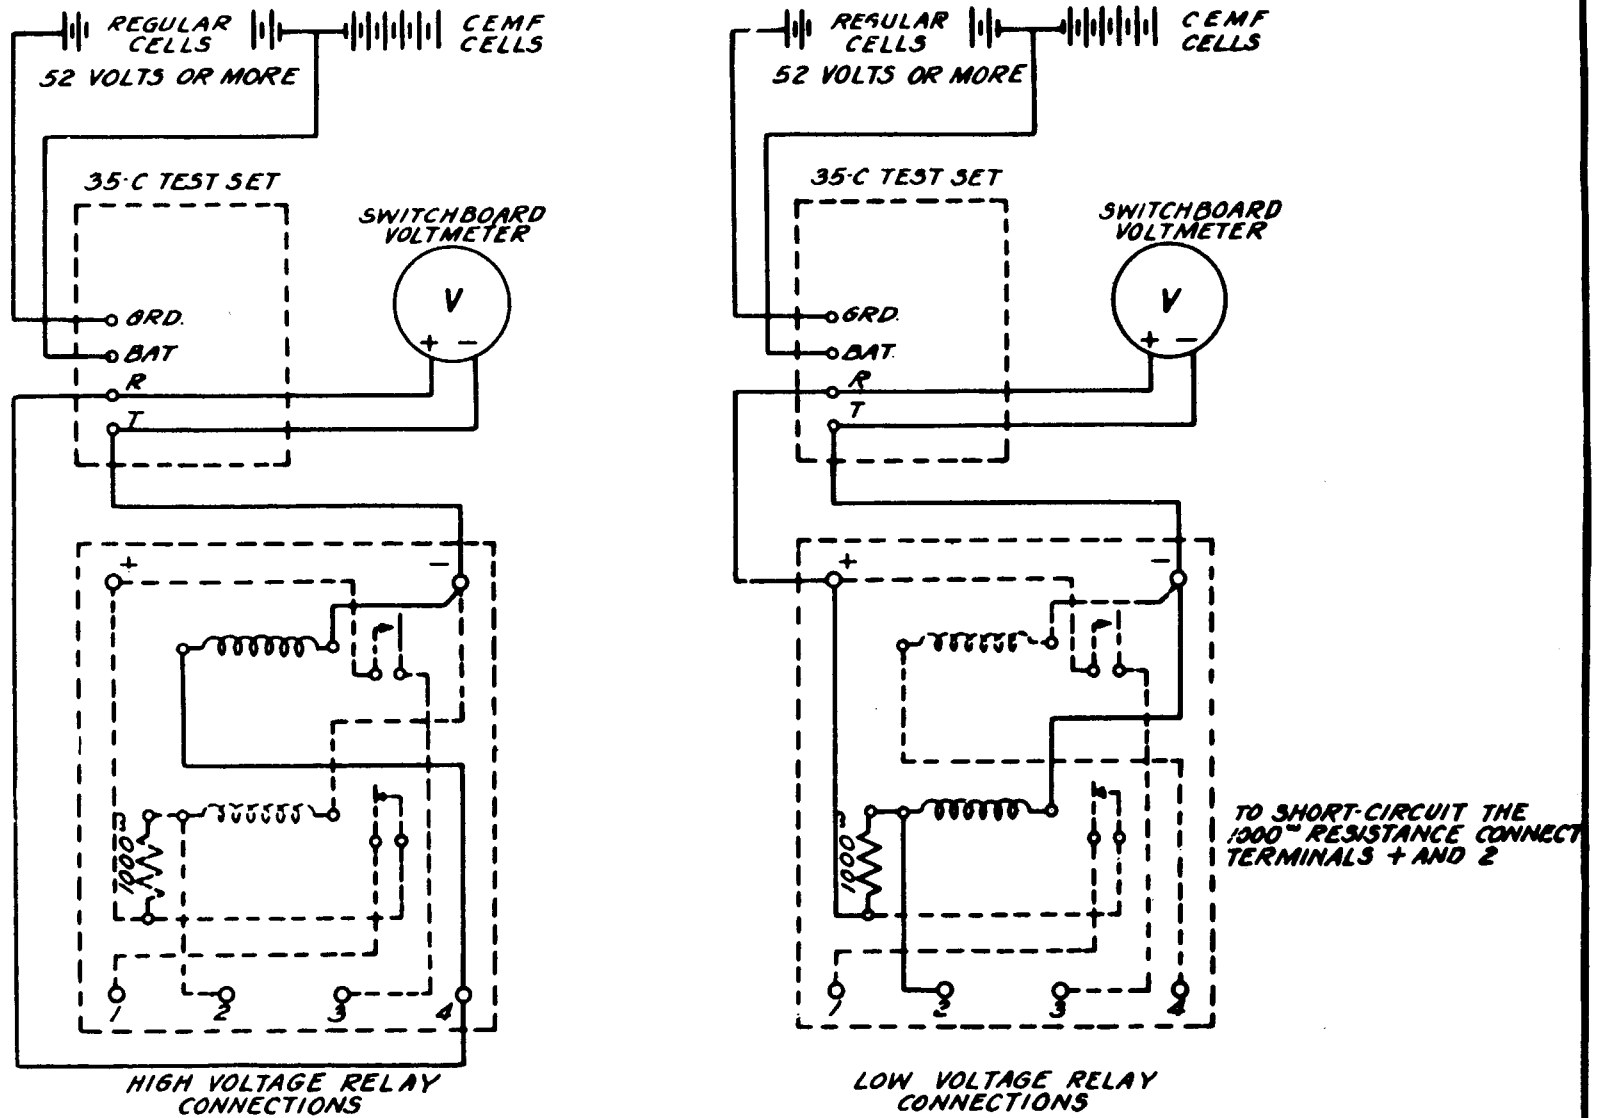

Fig. 2 - A.E.CO's. High-Low Voltage Relay Test Circuits
3.10 Electrical Requirements: The electrical requirements shall be met by adjusting the spring tension by means of the thumb screw. The connections given in Figure 2 shall be used for testing the relay. The 35-C test set shall be used to regulate the voltage.